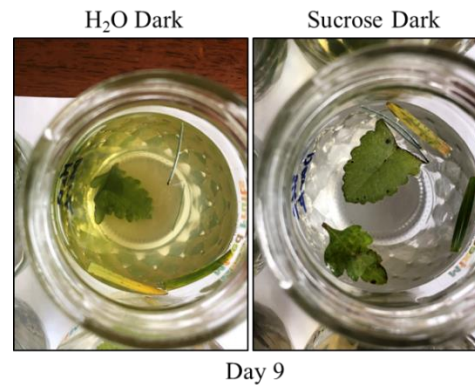

Figure 14. Detached leaves after 9 days' incubation in the dark in water or 6% sucrose solution.
3. Compare images and morphology of detached leaves in “**H₂O Dark**” and “**Sucrose Dark**”. Did supplementing water with 6% sucrose delay leaf senescence and damage (e.g., leaf yellowing, translucent leaf blades, brown necrotic spots, and yellow of aqueous solution) in the dark? Use images you took yourself and leaf morphology you observed to support your answer (Exemplary images are shown in **Figure 14** below). Explain your observations.